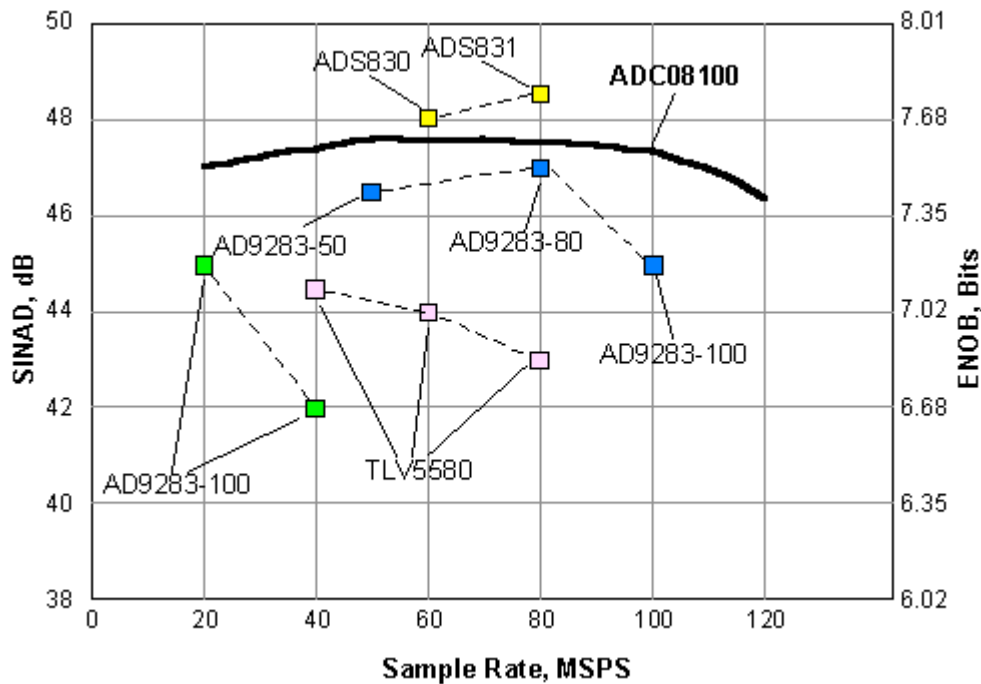

Figure 2. The ADC08100 provides a flatter performance response
Even better than a family of part, which still requires multiple inventories and lower total volumes per part, would be a single device that can economically fit into all ADC sockets. There now is a single 8-bit ADC, the ADC08100 from National Semiconductor Corporation, with virtually flat dynamic performance at sample rates from 20MSPS to 120MSPS. Performance of this device is guaranteed at 100MSPS. *Figure 2* shows how this new converter yields virtually the same performance over that 20MSPS to 120MSPS range. Note that the variation in SINAD (Signal to Noise and Distortion) over this range is only about 1.5dB.
*Figure 2* also shows the performance of other popular of 8-bit ADCs. The obvious advantage of the ADC08100 is the wide range of sample rates available with a single converter while maintaining essentially flat dynamic performance as measured by SINAD.